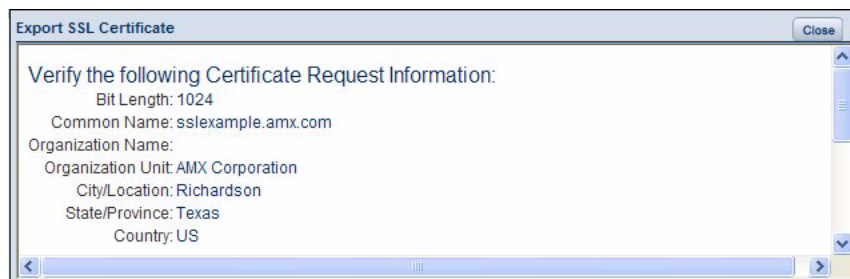

FIG. 57 Export SSL Certificate window
2. Click the **Export SSL Certificate** link to display the certificate text file in the Export SSL Certificate window (FIG. 57).